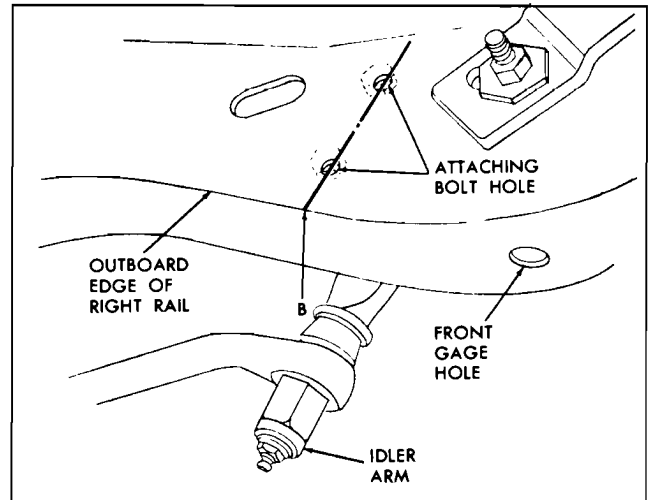

Fig. 10A-5 Underbody Vertical Reference Point ("B")
used to identify the vertical dimensions in the lower portion of Fig. 10A-4.
a. Front gage hole in lower surface of motor compartment side lower rail (Figs. 10A-5 and 10A-6).